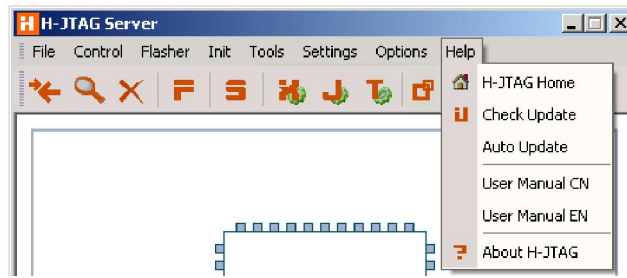

Fig 2-15 Help Menu
- Help menu, as shown in Fig 2-15.